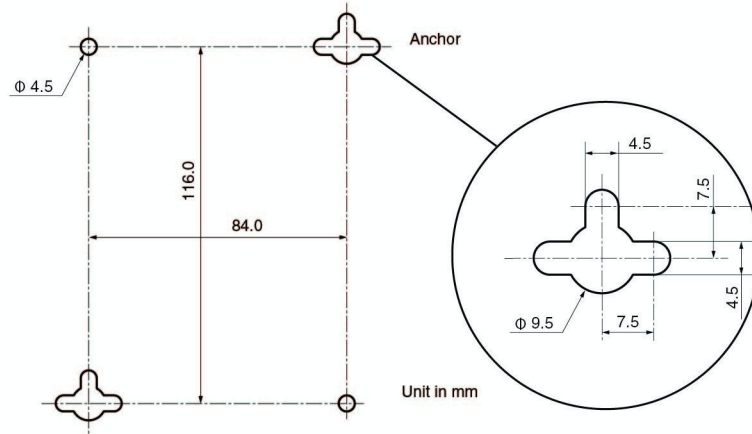

Figure 4. Base Plate Hole Dimensions
1. Using the base plate as a template, mark the four holes for mounting the base plate to the wall or ceiling. See Figure 4 for hole dimensions.